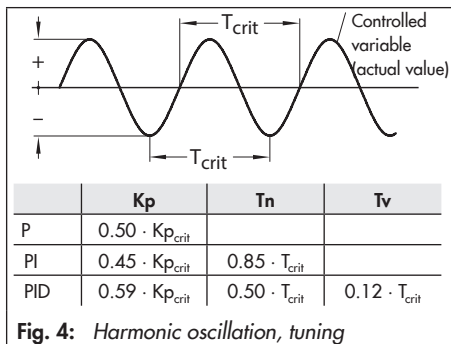

Fig. 4: Harmonic oscillation, tuning
6. Starting from a low value, increase the proportional-action coefficient K_p until the controlled variable pointer shows an harmonic oscillation pattern of the controlled variable (uniform oscillation amplitudes as shown in Fig. 4).
Multiply both values with the values in the table (Fig. 4) and set them as the favorable settings for K_p , T_n and T_v at the controller.